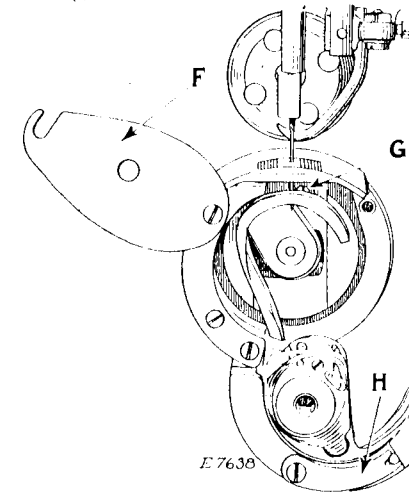

FIG. 11.
Turn the balance wheel over from you until the needle bar is at its lowest position, swing the cover (F, Fig. 11) as shown in Fig. 11. Lift the spring (H, Fig. 11) and lower the shuttle race, the shuttles will be lowered from their positions into the race as shown in Fig. 11. After opening the race, by pulling the hinged portion downward, lift out each shuttle, open the shuttle covers and when the shuttles are turned downward, the bobbins will drop out.
On Machines 18-5, 18-9 and 18-16, place the shuttle in the shuttle race with the point of each shuttle even with the edge of the race and the thread delivery eye of each shuttle toward the right as shown in Fig. 11.
The feed dog should be set so that when it is raised, slightly less than the full depth of the teeth will project above the throat plate. To raise or lower the feed dog, loosen the screw (G, Fig. 11) and raise or lower the feed dog as required, then tighten the screw (G).